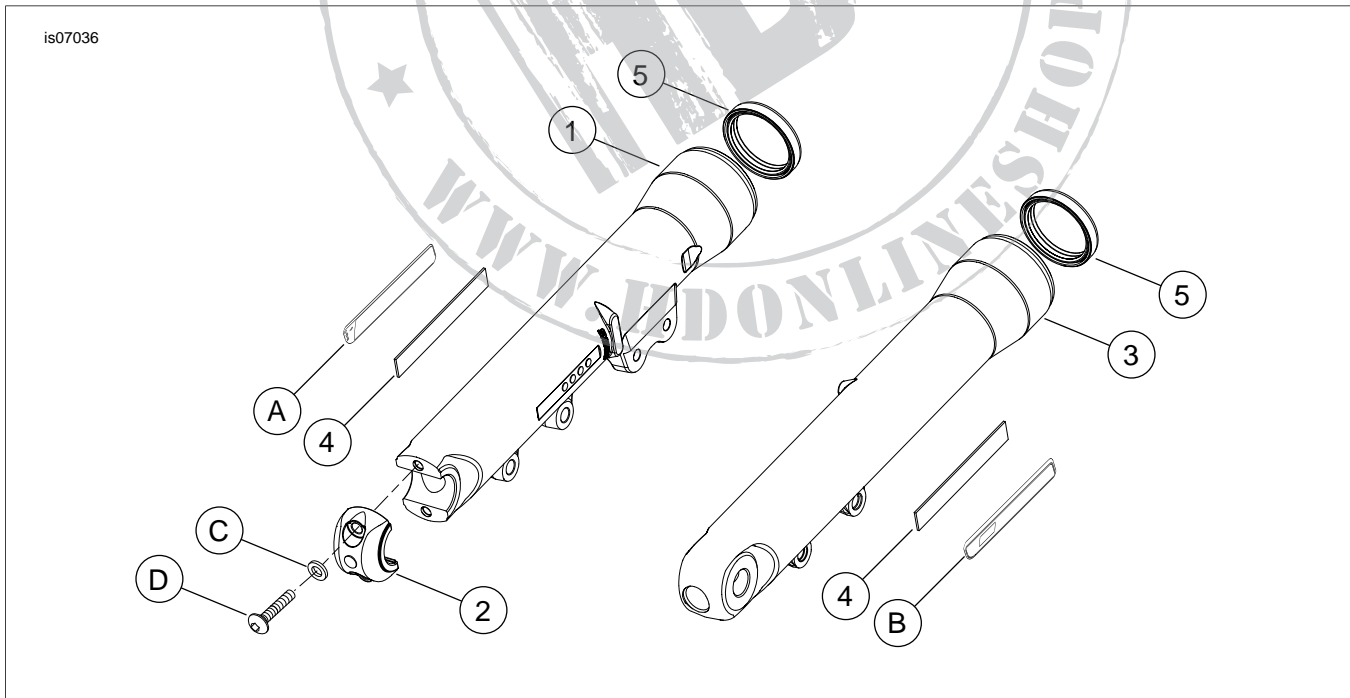

Figure 2. Service Parts: Dyna Fork Slider Kits
See Figure 2 and Table 1.
3. Disassemble the front fork tubes according to instructions in the service manual, and replace the original fork sliders with the sliders (see Figure 2, items 1 and 3) from the kit.
4. Assemble the front fork tubes, replacing worn seals, bushings or other additional items as needed. Two **new** slider oil seals (5) are included in the kit.
- Using a piece of dental floss (or similar material) in a back and forth motion, loosen the reflector (Figure 2, A and B) from fork slider at both ends. Rotate reflector from side to side until it can be removed. Retain reflector for future use.